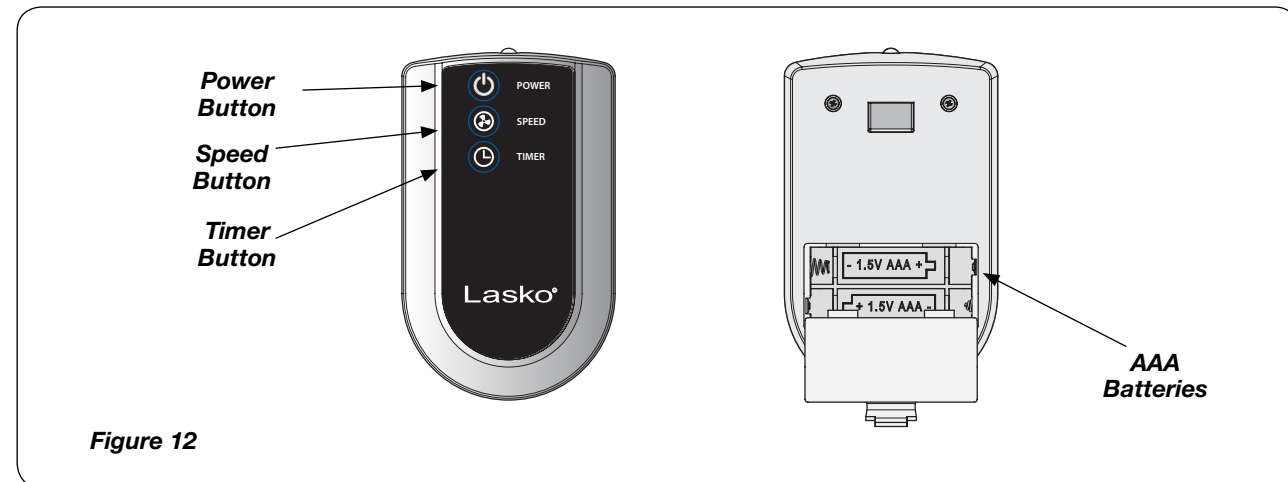

Figure 12
This Fan may be operated by the Manual Controls located on front of the unit (as shown in Figure 9) or by the Remote Control (shown in Figure 12).
1. Install batteries (not included) as shown in *Figure 12*. The battery is type “AAA”.